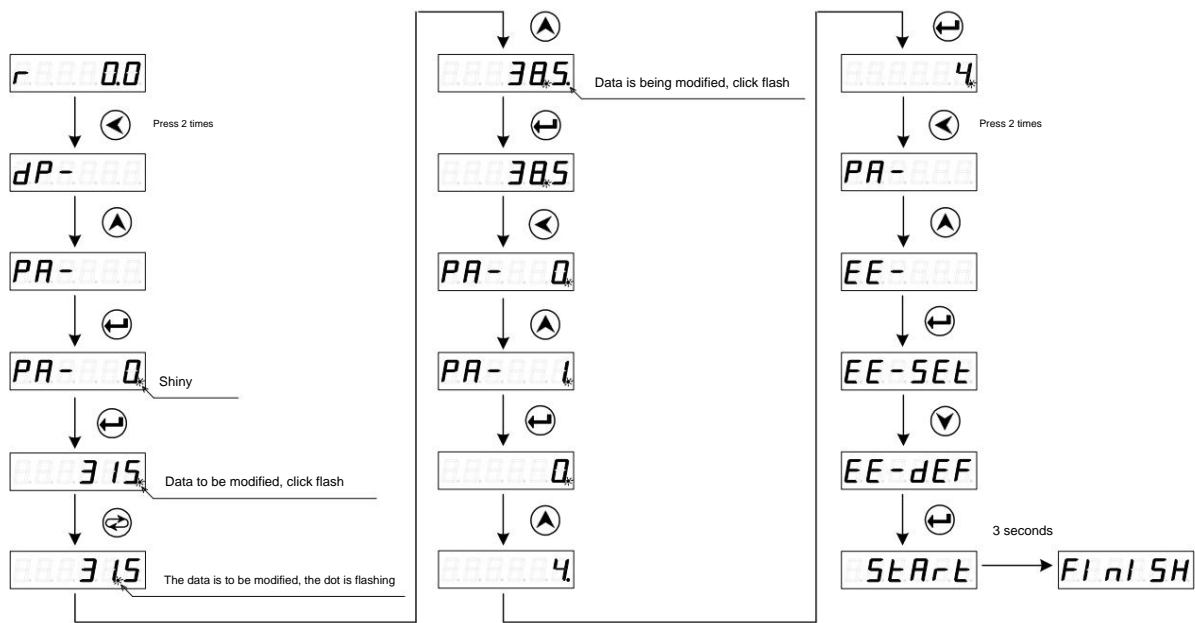

Figure 4-3 Restoring the motor default parameters
Taking restoring the default parameters of the 130SJT-M100D (A) (motor model code is 4) motor as an example, the specific operation is shown in Figure 4-3.